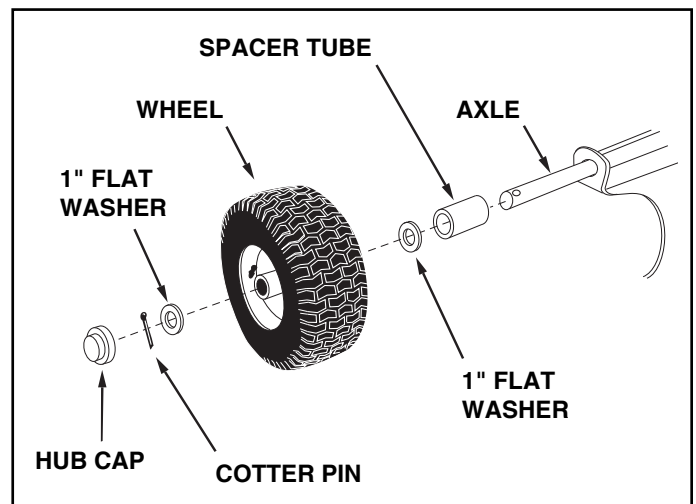

FIGURE 7
- Assemble a spacer tube, a 1" flat washer, a wheel (valve stem facing out), and another 1" flat washer onto the axle as shown in figure 7. Secure the wheel with a cotter pin, spreading the ends so that a hub cap can fit over the pin. Assemble the hub cap by pressing it onto the flat washer. Repeat on other end of axle.